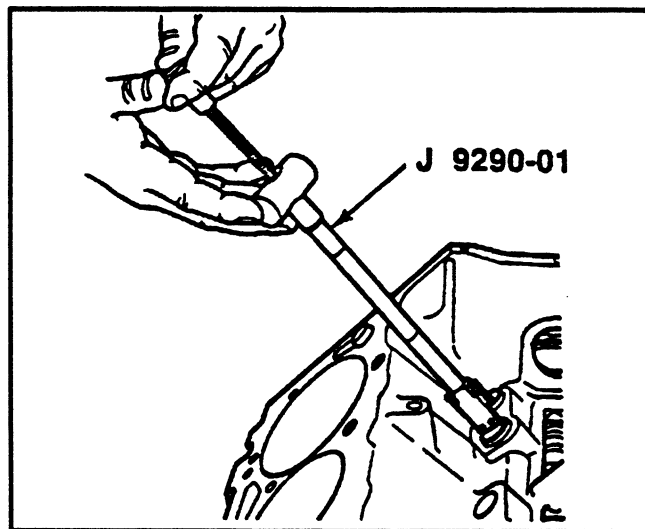

FIGURE 8. REMOVAL TOOL FOR HYDRAULIC LIFTER
**NOTE:** Some hydraulic lifters can be difficult to remove because of varnish deposits. A tool (J 9290-01) is available to remove a hydraulic lifter. See FIGURE 8.